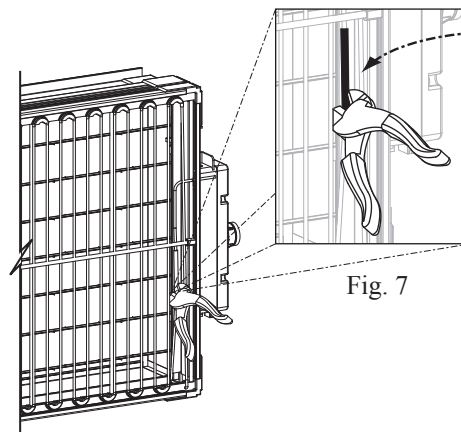
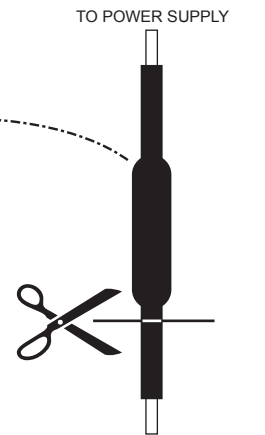

Fig. 7
Fig. 8
- 7: Cut the splice away from the media enhancement grid wire (Fig. 7). Cut the media enhancement grid wire next to the wire splice under the heat shrink tubing (Fig. 8).